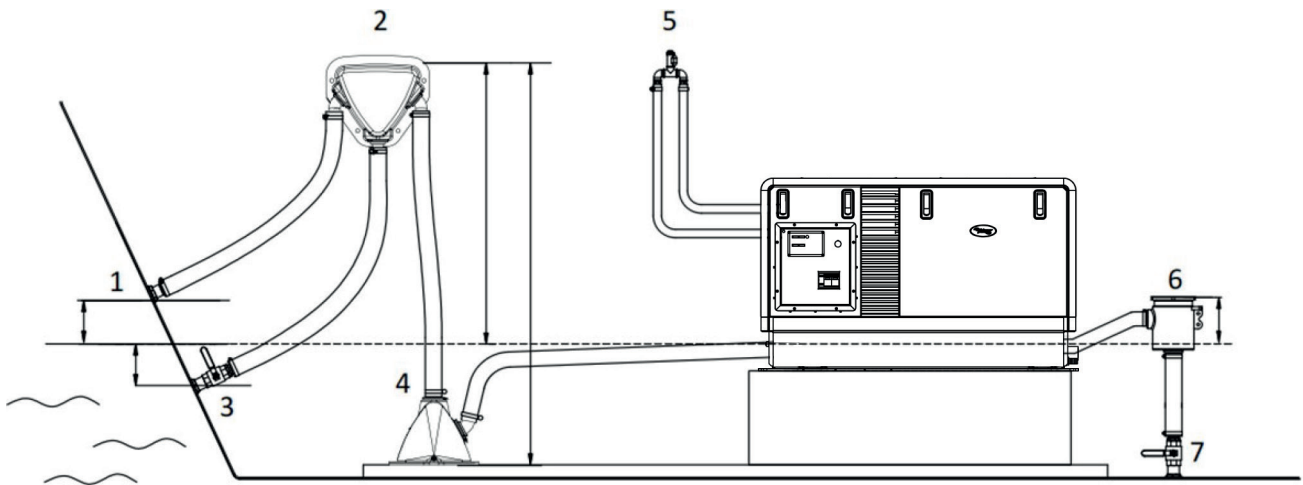

Fig. 6: Internal cooling system
Use an appropriate water strainer with connections of 25.4 mm (1”). Install the water strainer in a well accessible position, 5 cm above the waterline (see fig. 6, ref. 6).
Extend the water hose of the by-pass 60 cm above waterline and install an air vent. Ideally, the air vent should be mounted above the yacht keel centre line (i.e. to minimize the influence of swaying on the water intake). See figure 6, ref. 5.